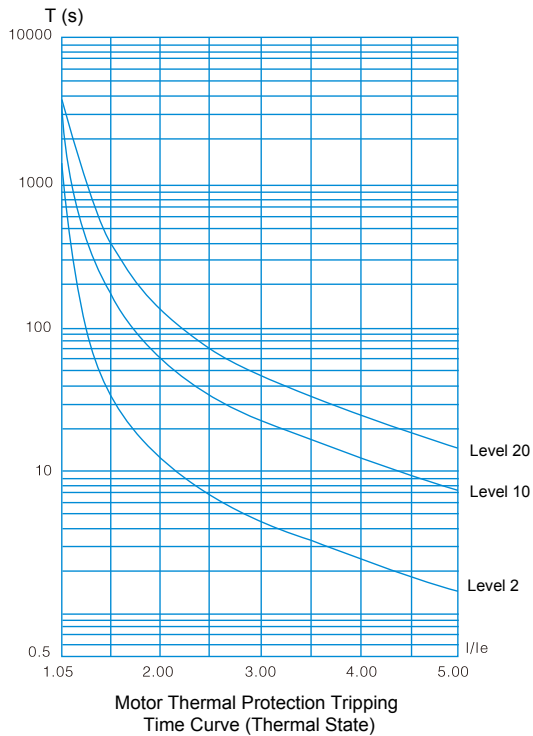

Figure 6.1
- ◇ Protection time of running overload: Inverse time thermal protection is based on maximum working current of setting item P7, tripping protection time curve is shown as figure 6.1.
- ◇ Protection levels of light load, standard and heavy load are equipped with complete protection function, the difference between them is the different motor overload thermal protection time curve. See table 6.1 and figure 6.1 for the motor thermal protection time.